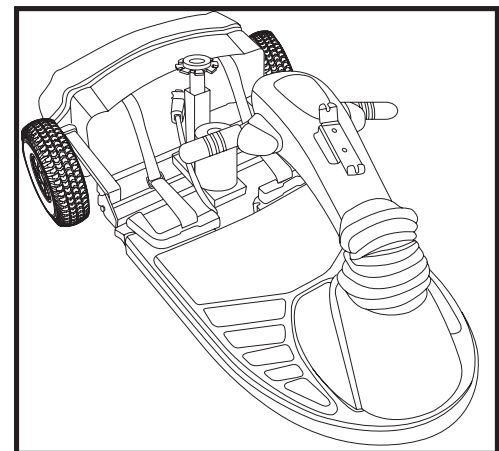

Figure 9B. Lowest Tiller Position
2. Pull up on the tiller adjustment lever and lower the tiller slowly toward the scooter deck. See figure 9B.